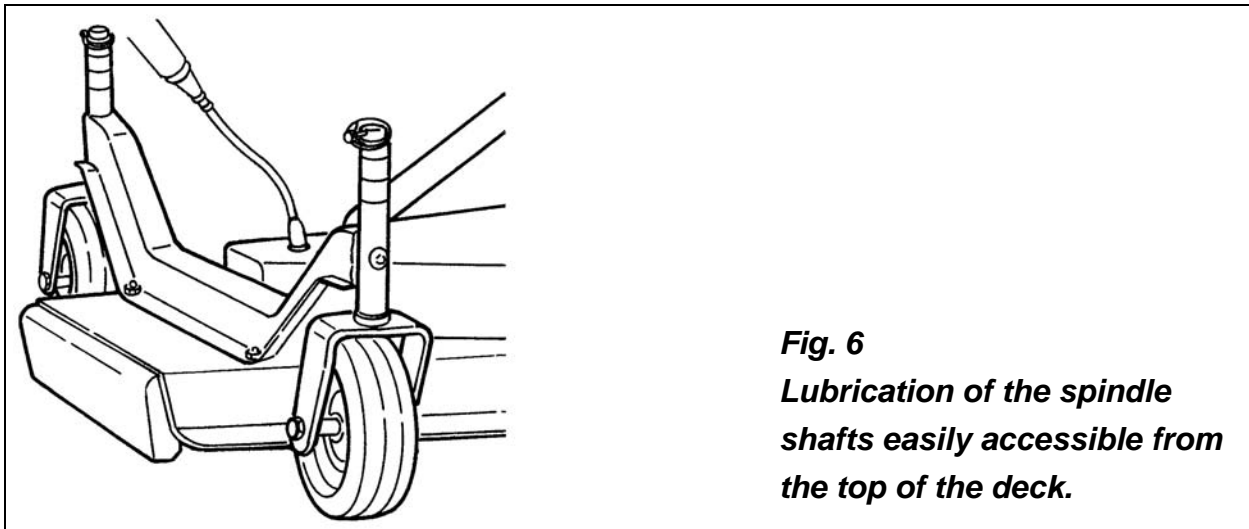

Fig. 6
1. Lubricate the three spindles with two or three shots of multipurpose grease (see fig. 6). The top grease fittings are easily accessible from the top of the deck by simply removing the plastic dust guards.